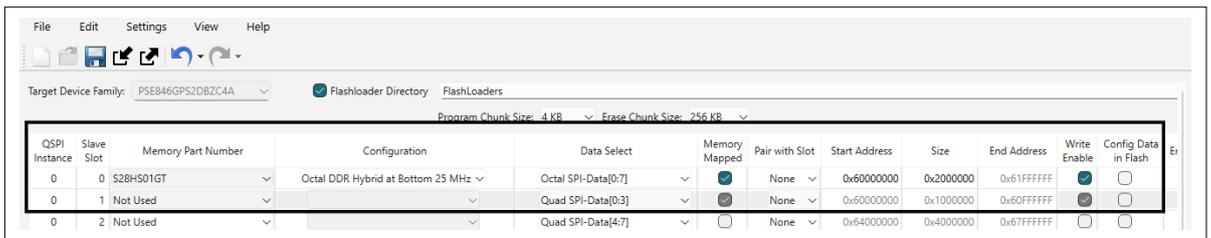

Figure 52 Enable the OSPI flash in QSPI Configurator
1. In the QSPI Configurator, select the OSPI Memory Part Number and select the configuration as needed. Disable the Quad SPI memory. An example configuration for OSPI supported by the PSOC™ Edge EVK is shown in Figure 52